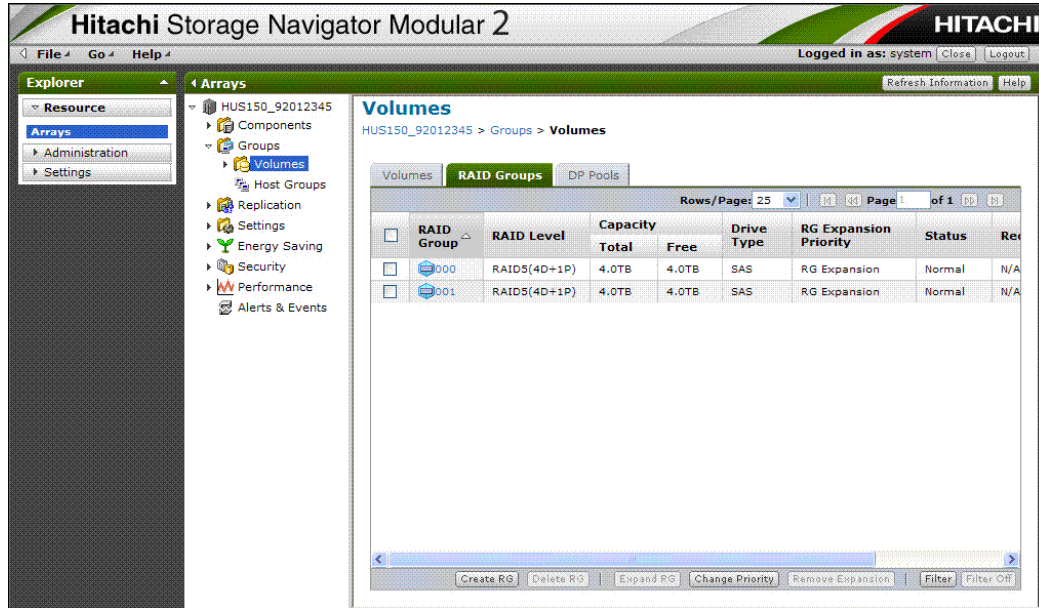

Figure 4-10: Volumes dialog box - RAID Groups tab
4. Click the **RAID Groups** tab to display the RAID Groups list as shown in Figure 4-10. RAID groups and volumes defined for the storage system display.